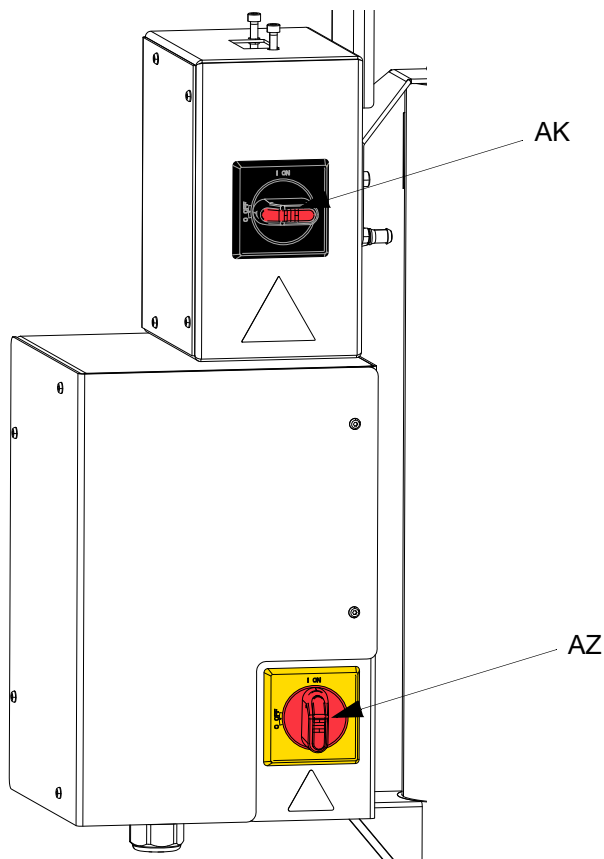
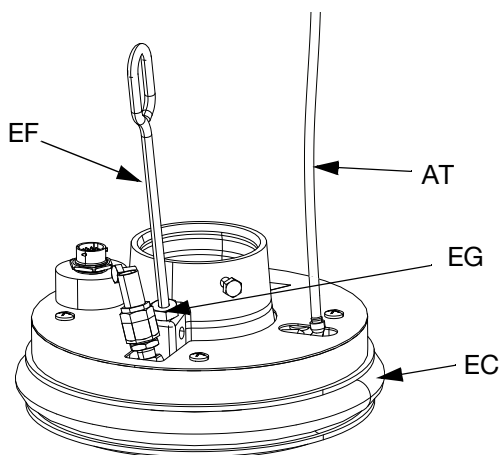

FIG. 38. Power Disconnect
FIG. 41
If the Platen (AD) does not come out of the pail easily when the Pump is being raised, the air assist tube (AT) or check valve (416) may be plugged. A plugged valve prevents air from reaching the underside of the plate to assist in raising it from the pail. See FIG. 41 on page 44.
1. Turn off power to the Electric Driver (AB):
- a. If using an ambient Single Ram Supply System, turn the red Disconnect Switch (AZ) OFF. See FIG. 38.
- b. If using a heated Single Ram Supply System, turn the black Power Junction Box Switch (AK) OFF. See FIG. 38.
- c. If using an ambient Tandem Ram Supply System, turn the red Power Junction Box Switch (AK) OFF on the Ram Supply Unit that requires a drum change only. See FIG. 38.
- d. If using a heated Tandem Ram Supply System, turn the black Disconnect Switch (AZ) OFF on the Ram Supply Unit that requires a drum change only. See FIG. 38.